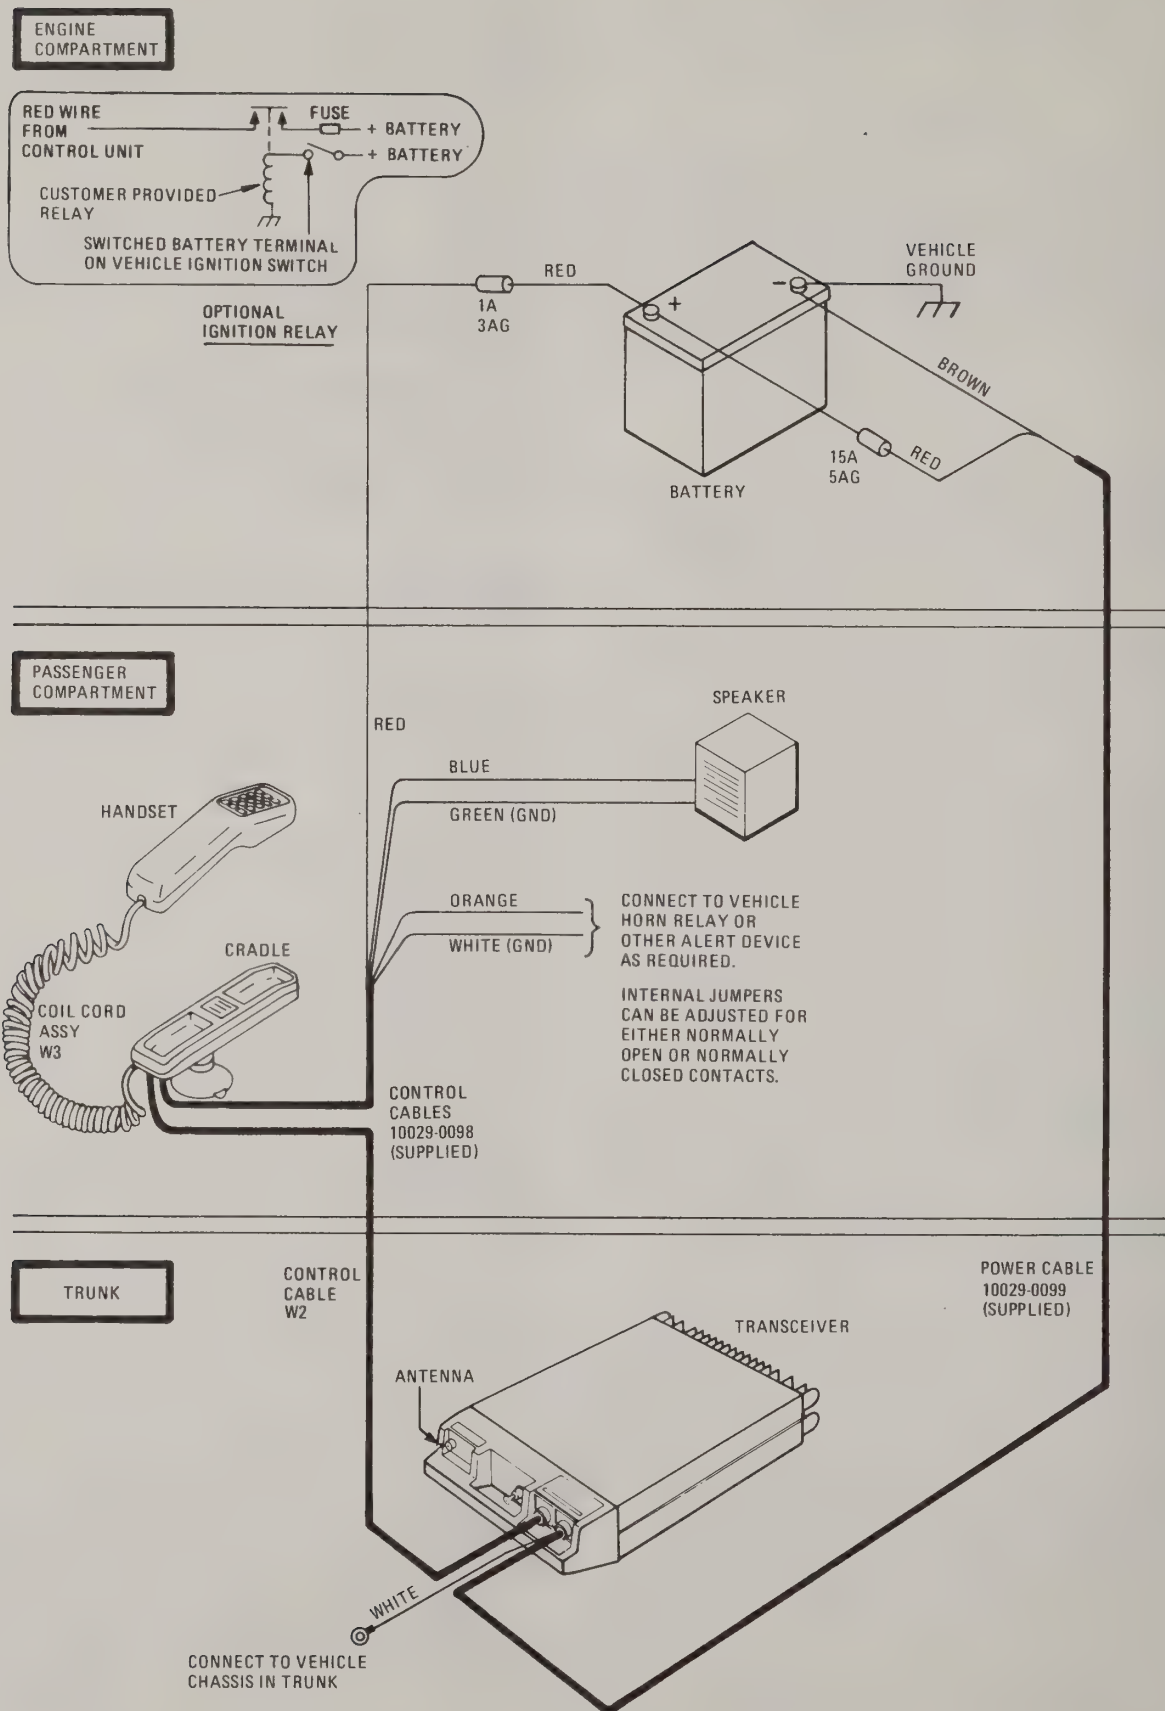

Figure 2-6. Electrical Interconnection Diagram
- (a) Referring to figure 2-6, route power cable from trunk compartment to engine compartment.
to the vehicle ignition switch (accessory or auxiliary position). If this wire must pass through the fire wall, insert fuseholder in this line as described in paragraph 3.04 (b). If ignition/regulator/alternator noise is a problem, connect red wire to battery through a relay operated by ignition switch as shown in figure 2-6.